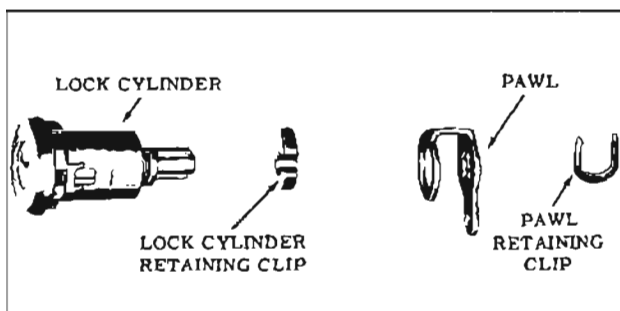

Fig. 16-37 Door Lock Cylinder Assembly
2. Remove pawl retaining clip, pawl and lock cylinder retaining clip. (Fig. 16-37)